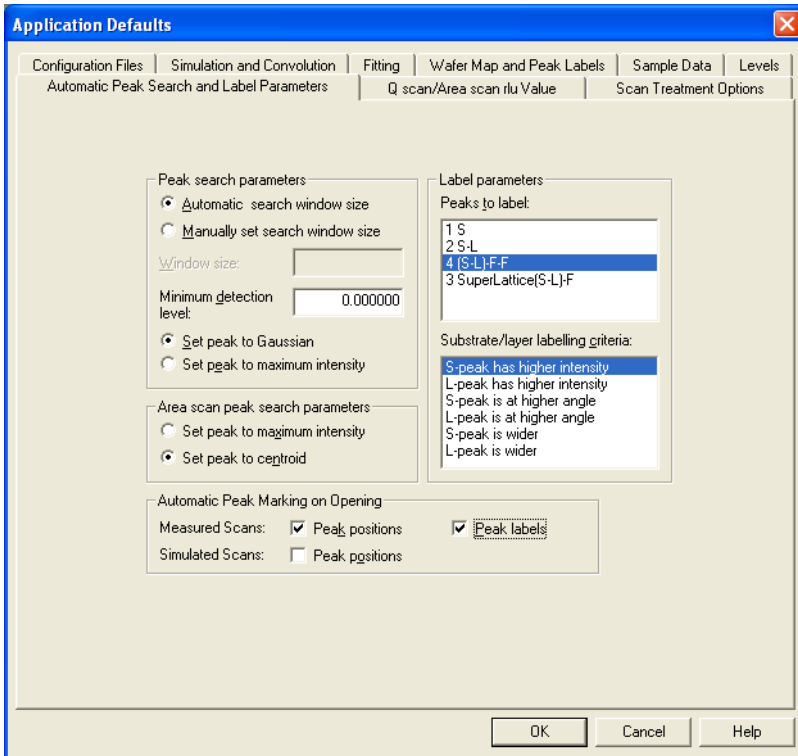

Figure 2-3: The “Automatic Peak Search And Label Parameters” tab
- Set up the parameters as shown in Figure 2-3 in the “Peak search parameters” frame, the “Label Parameters” frame and the “Automatic Peak Marking on Opening” frame.